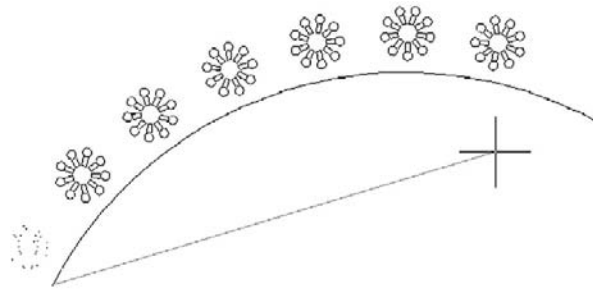

FIGURE 8.19
The path array is the new kid on the block. Requested by users, this feature was finally added in AutoCAD 2012. The idea is simple, and it is surprising that this feature was not added earlier. A path array creates a pattern along any *predetermined pathway*, of any shape, as opposed to a strictly circular or linear one. This path can be an arc, a pline, or a spline. Because plines and splines have not yet been discussed (a Chapter 11 topic), we focus on arcs as the pathways. A path array can also be created in 3D, but we do not get into that right now. An example of a path array in progress is shown in Figure 8.19.
Boiled down to its essence, the path array just needs an *object to array* and a *path to follow*. Much like the previous two arrays, the objects can be spread out dynamically with mouse movements (as seen being done in Figure 8.19), or with an input of a specific value. All other options flow from this basic approach. Let us give it a try. Create an arc and some random object to array; a rectangle will do, as seen in Figure 8.20.
- Step 5.** Here, you are asked to specify how many items you wish to fit along the path. You can do this dynamically via the mouse (as in Figure 8.19) or type in a value, let us say 10.